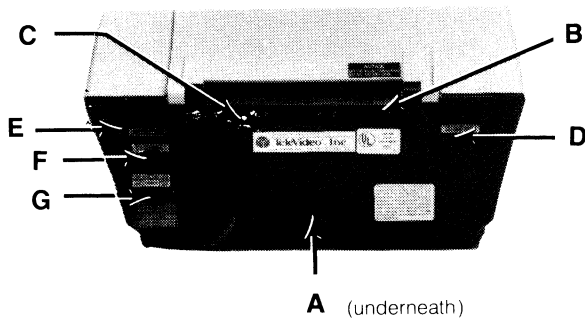

Figure 2-2 Rear Panel
**Setting Power Select Switch**—Set the power select switch on the bottom of the terminal to either 115V or 230V. ( **A** on Figure 2-2). You will set Hertz to match your power frequency when you set S2 (Table 2-3).
**Interfacing Connections**—The interface connection to the computer system (main) port is P3, located on the rear of the terminal ( **B** in Figure 2-2). The connector configuration of P3 is given in Table 2-1.